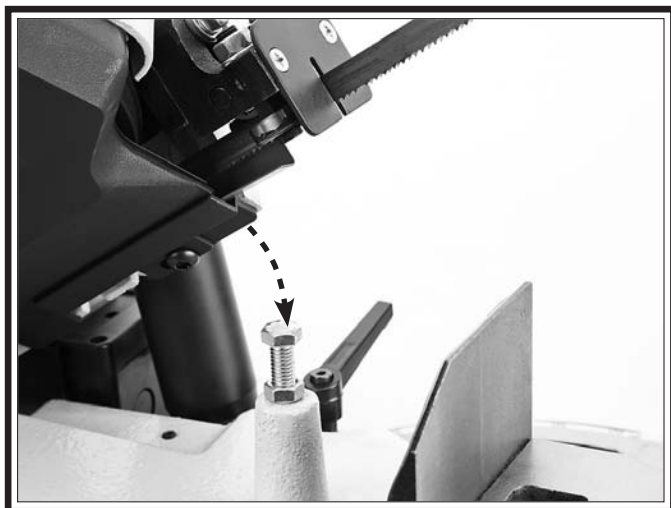

Figure 51. Adjusting downfeed stop bolt.
2. Adjust the downfeed stop bolt and jam nut with a 14mm wrench (see **Figure 51**), so the bandsaw blade teeth are just below the table surface when the headstock is fully lowered (refer to **Downfeed Rate** on **Page 29** for instructions on how to lower the headstock).